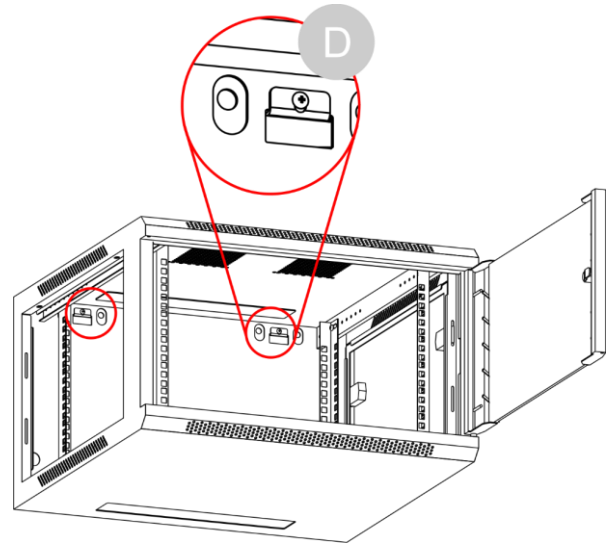

Fig. 23
09) Tighten the **safety screws (D)** and make sure that the cabinet is firmly secured, as shown in Fig. 23.
10) Use the **keys (G)** to lock and unlock the doors. The cabinet is now ready for use.